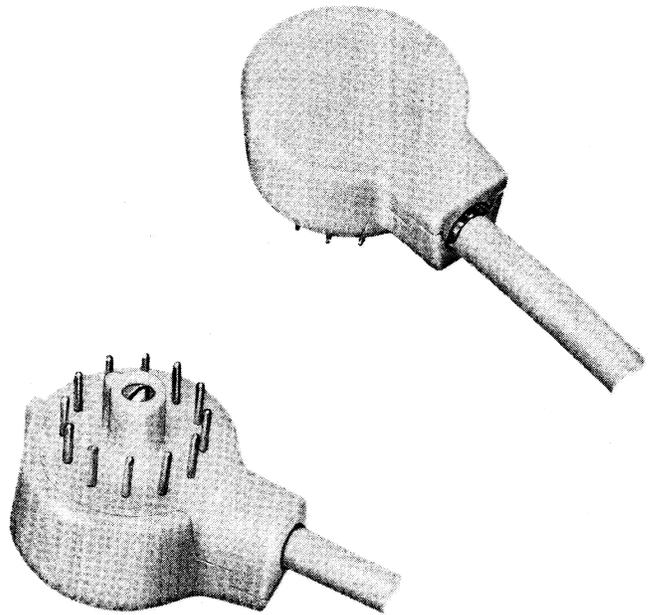
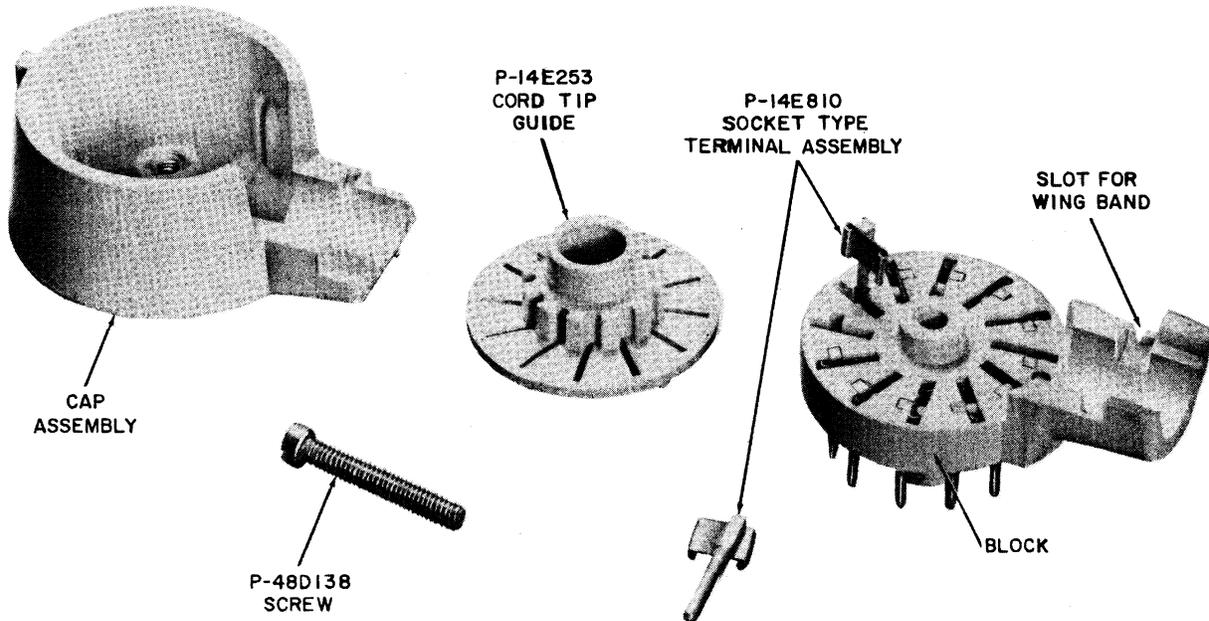

Fig. 4—504A Plug
Fig. 5—504A Plug Disassembled
2.05 The 504A plug (Fig. 4) is made in three pieces of molded plastic and is held together by one screw and a snap-fit in the neck. Plug block contains contacts and socket type terminals. A cord tip guide (Fig. 5) covers terminals. Guide will fit in only one position. The contact numbers are molded on the guide. Contacts are numbered
2.06 Slots are provided on plug block and shell (Fig. 5) to hold a wingband or clipped stay hook. The wingband or stay hook seated in the
4.05 Connections for the 504A plug (Fig. 4) are as follows:
- (1) Place cord tip guide on block (Fig. 5).
(2) Insert mounting cord tips into socket type terminals of plug.